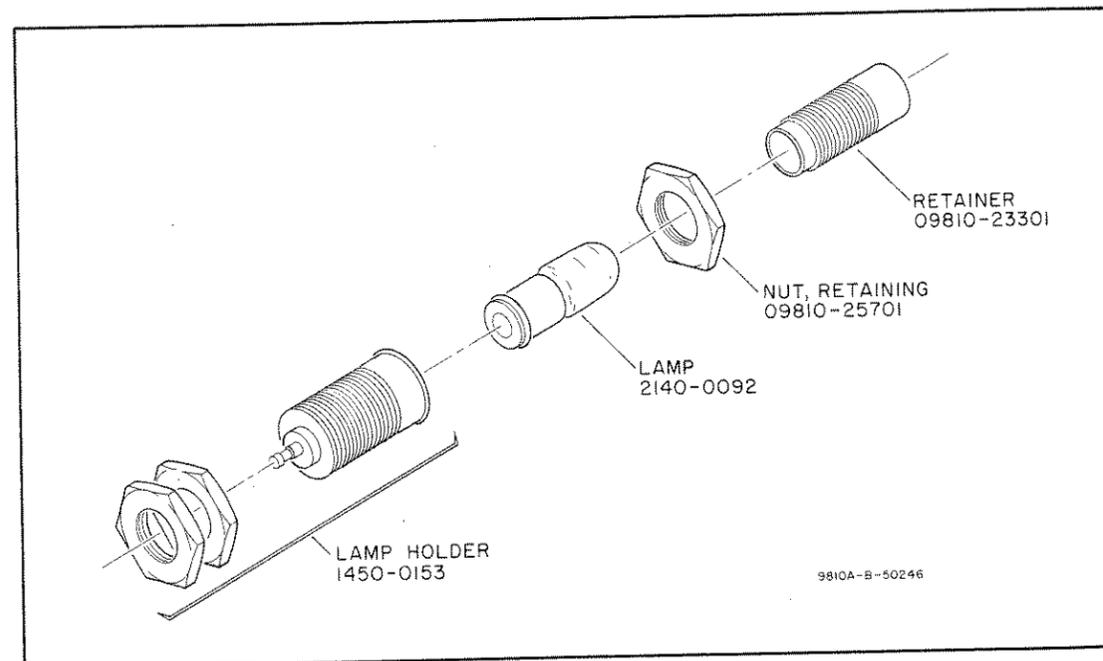

Figure 8-2. Lamp Replacement
- Loosen brass nut on the front (Lamp) end of the assembly with a  $\frac{3}{16}$ " wrench. (See Figure 8-2.)